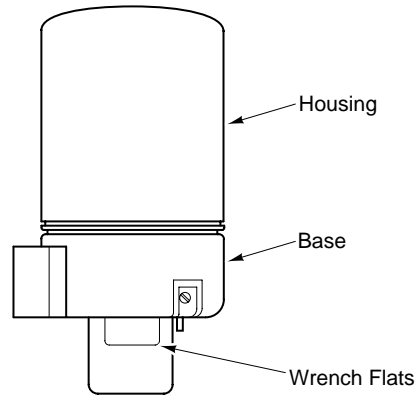

Figure-2 Housing and Base Location.
Do not twist or exert any force on the actuator housing during installation. Either turn the base by hand or, if necessary, use a 1-5/8" (41 mm) open-ended wrench (TOOL-37) on the flats provided on the actuator base or the valve body mounting nut. Refer to Figure-2.
**Caution:** Do not twist or exert any force on the actuator housing during installation. Either turn the base by hand or, if necessary, use a 1-5/8" (41 mm) open-ended wrench (TOOL-37) on the flats provided on the actuator base, or on the valve body mounting nut. (Refer to Figure-2.)